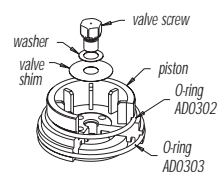

Figure 7
1. Clamp the piston shaft eyelet in the vice, and use a spanner wrench to unscrew (counterclockwise) and remove the piston (Figure 3). To change either the compression damping or rebound damping, the brass screw in the piston must be removed using a socket wrench. You can replace the valve shim or brass screw with components from the Tuning Kit. Be sure to reassemble the parts as shown in Figure 7. Tighten the screw snugly—do not use excessive force.